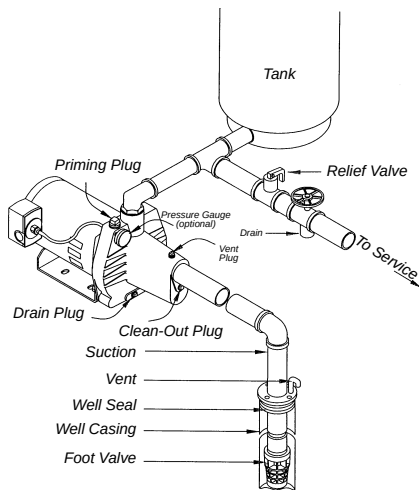

FIG. 2A SHALLOW WELL (WITH FOOT VALVE)
- Service Line:** The service line should be connected as shown in Fig. 2a, b, c or d. The size of the service line required is governed entirely by the amount of water needed and the length of the pipe. The pipe selected should be large enough so that the friction loss (determined from Table 2, Friction Loss Chart) will never exceed 20 ft. (6m) head.